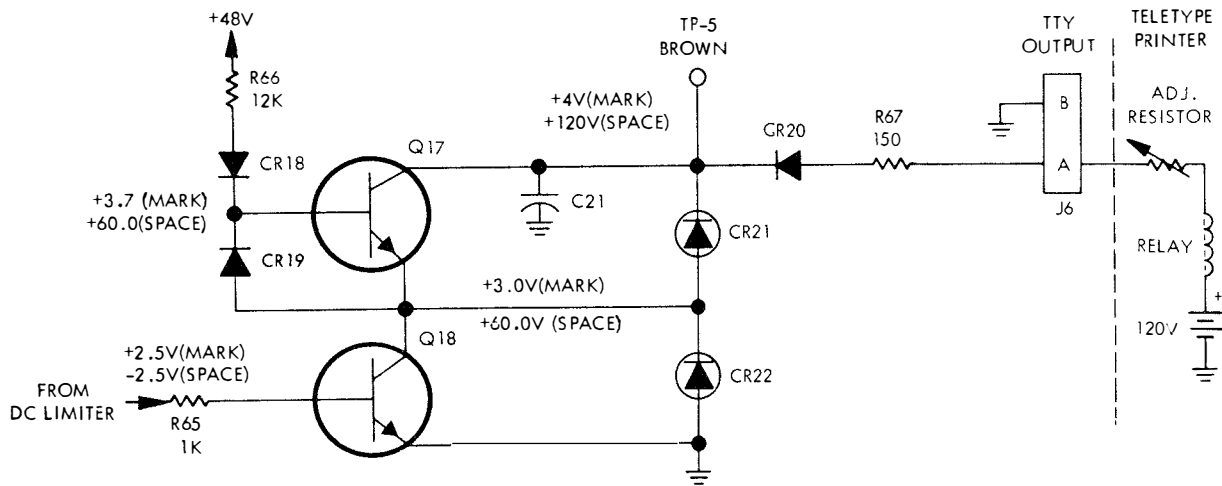

Figure 4-6. Loop Keyer and Teletype Printer Keying Circuits
(5) LOOP KEYER. - The function of the loop keyer, Q17, Q18, and associated circuit, is operation of the teletype printer loop relay. The teletype printer loop keyer circuit consists of a 120 volt dc power supply, a relay winding, and a variable resistor used for adjusting the loop current to 60 ma (see figure 4-6). The 120 volt dc at J6 is applied across Q17, Q18, and R67 in series. When a positive (mark) signal is applied to the base of Q18, the forward base-emitter bias of Q18 is increased and Q18 conducts heavily. The heavy emitter-collector current in Q18 causes the emitter of Q17 to become more negative and Q17 conducts, closing the teletype printer keying relay. When a negative (space) signal is applied to the base of Q18, the forward base-emitter bias is reduced. This lowers the emitter-collector current of Q18 and the forward base-emitter bias of Q17, opening the teletype printer relay. The relay remains open until another positive (mark) signal is applied. Diode CR19 prevents a large emitter-base voltage (caused by an increase in the emitter-collector resistance of Q18) from damaging the emitter junction of Q17. Diode CR18 prevents the teletype power supply (+120 volts) from feeding into the converter +48